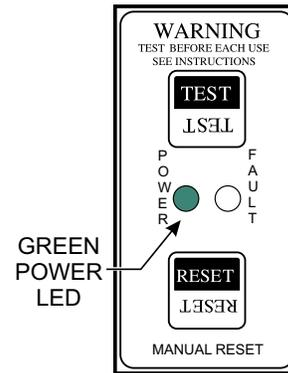

Figure 46. GFCI Module (Green LED ON)
3. On the GFCI module (Figure 46), verify that the *green* POWER LED is **ON**.